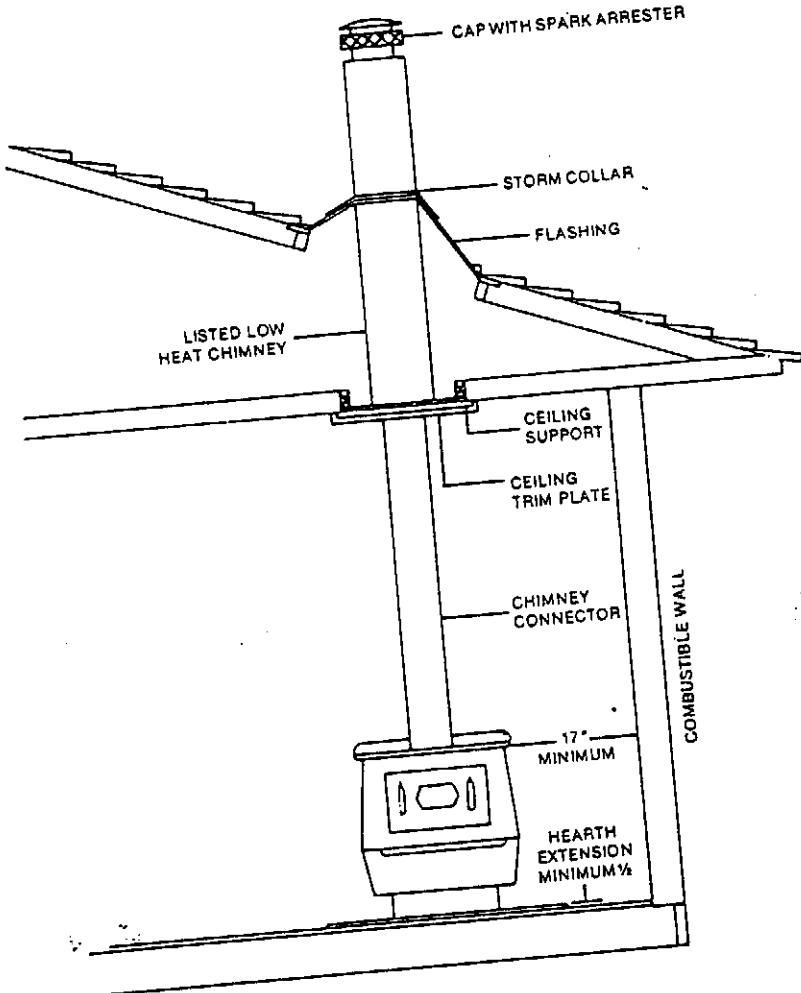

FIG. 4
1. Set hearth and stove in location for marking holes in accordance with the dimensions listed on the label and Fig. 4 and 5 of these instructions.
8. Measure the distance from the ceiling to the top of any combustible material. If required, trim the top of the joist shield so that it will clear any combustible material when installed in step 11. Note that the joist shield may extend completely through the roof on some installations and may require trimming, only to allow the proper positioning and attachment of the roof flashing and storm collar. See Fig. 4.